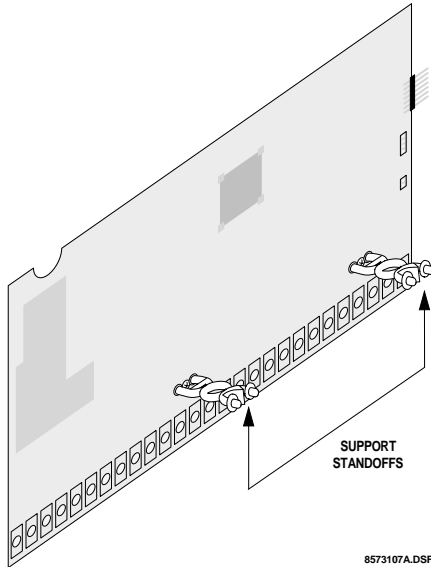

Figure 23. Installing the Support Standoffs (Hardware Panel Shown—Combination Hardwire/Wireless Panel Similar)
- ❑ Install the standoffs at the locations shown in Figure 23.
- ❑ The cabinet has built-in mounting clips on the top and sides that module backplates slide onto for mounting (see Figure 23).